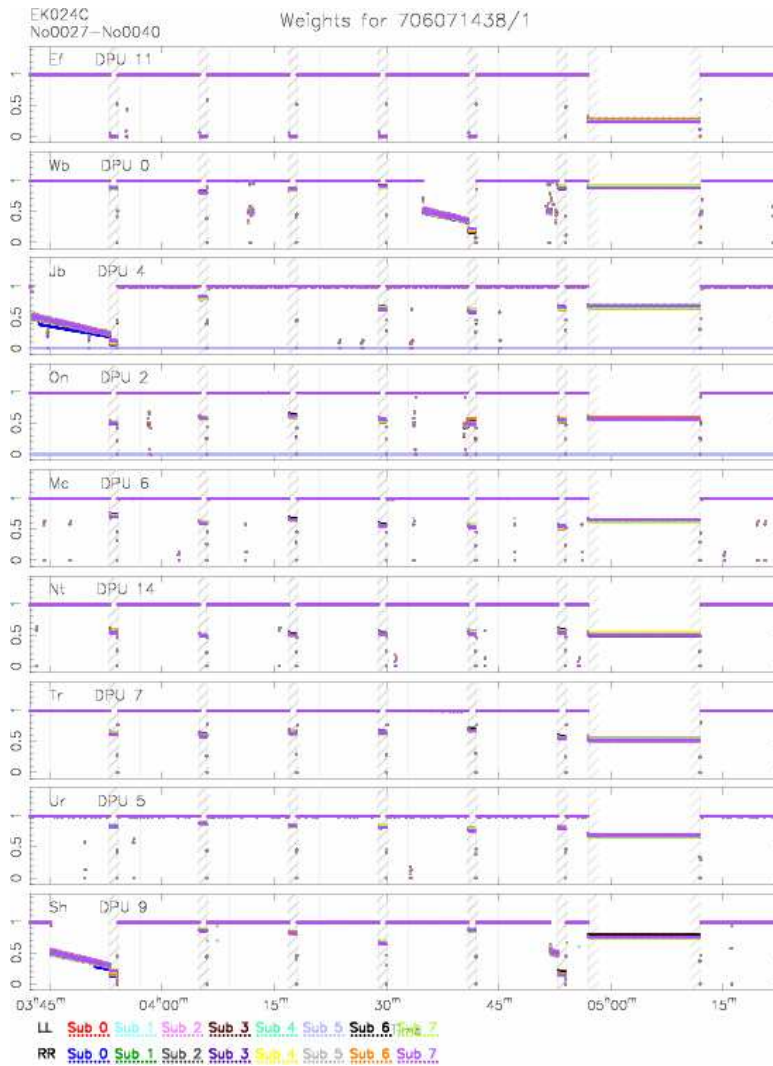

Figure 3: `plotweight.pl` weight plots for a correlation of a segment of scans (from EK024C).
Figure 3 shows an example weight plot from a correlation of a segment of scans from EK024C. You can see some of the features mentioned above (gap shading, subband/polarization color-coding). Further, there are numerous examples of “Diagonal Weights” (¶App.1.g.i.γ) and SB5/LCP seems to be dead in Jb & On (with disk-based experiments, most probably the sign of a correlator problem). You can see that the weights in gaps is irrelevant — such data won’t make it through into the Measurement Set anyway. Because of the SB5/LCP problem, this whole range would have to be recorrelated. If this didn’t happen, then you’d need to recorrelate some of the scans to avoid using the Diagonal Weight events: scans 27–28 or Jb & Sh, and also scans (35)–36 for Wb (¶App.1.g.i.γ discusses how the fringes actually disappear a short time before the onset of the Diagonal Weight event in the weight plot; you’d have to look into things to see whether the recorrelation of scan 35 were absolutely necessary — but since it’s so short, it might just be easier to recorrelate it anyway).